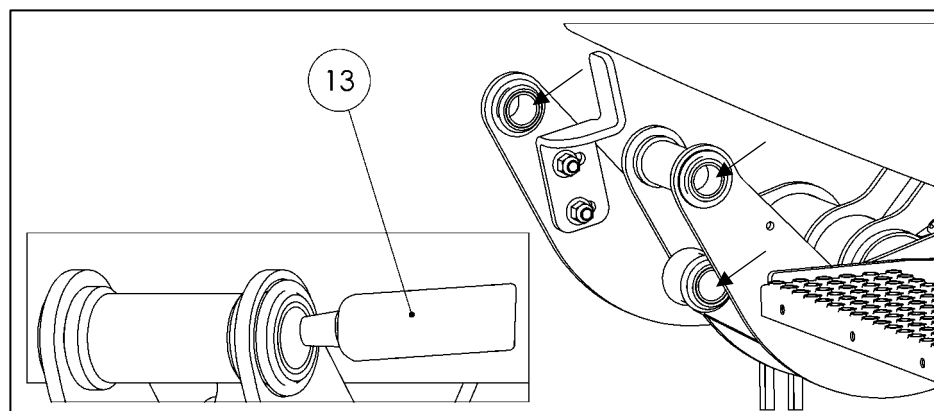

Fig. 53
- Thoroughly grease the bearing bushes with the special assembly grease (accessories kit parts list – Item No. 13) (see Fig. 53).